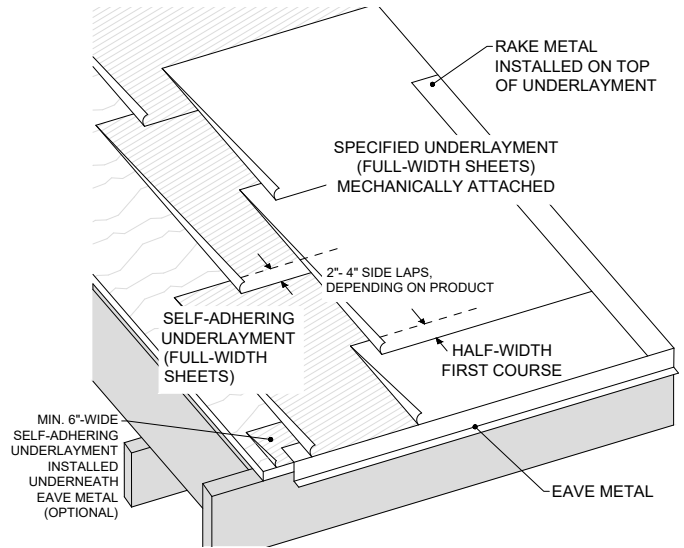

Figure 3 - Initial Layer of Self-Adhering Underlayment Followed by Mechanically-Attached Underlayment
- Initial layer of Secure Start HT or Arctic Seal and one additional layer of mechanically-attached underlayment (Right Start UDL or Secure Start SG/Plus/Permeable) (See Figure 3)
- Install an initial layer of Arctic Seal or Secure Start HT and one additional layer of mechanically-attached underlayment (Right Start UDL or Secure Start SG/Plus/Permeable). Two (2) layers of Arctic Seal are also acceptable. (See Figure 3)